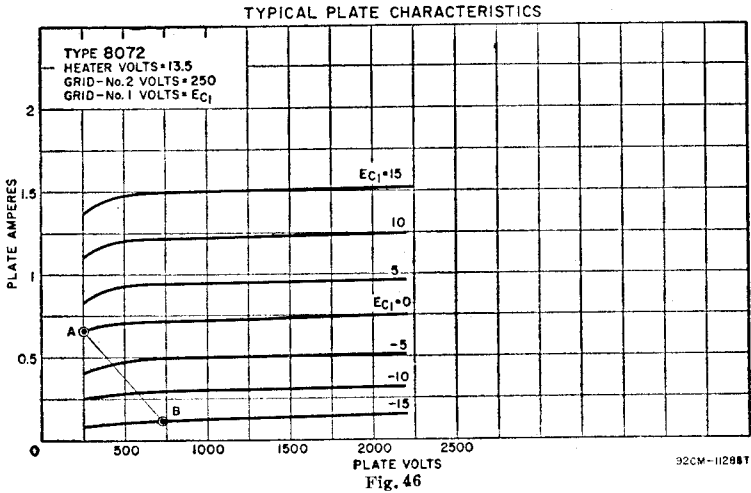
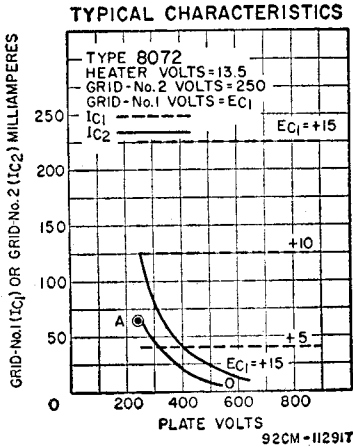

Fig. 46
Fig. 47
The operating conditions for a class AB₁ linear rf amplifier used in single-sideband service can be estimated from the load line plotted on a set of plate characteristics. The typical plate and grid-No.2 characteristic curves shown in Figs. 46 and 47 are used in the following
(3) Select a value of zero-signal plate current (I_{b0}) between 1/6 and 1/10 of I_{bmax} found in (2). Locate I_{b0} at selected E_b and construct a load line to the point found in (2). In general, the
(5) Determine the grid-No.1 bias (E_{c1}) from graph at the point of zero signal found in (3).
(6) DC plate current at peak of envelope (I_{be}) is approximately equal to $I_{bmax}/3$.
(7) Average dc plate current (I_b) is equal to $I_{be}/1.4$.
(8) Determine peak grid-No.2 current (I_{c2max}) from Fig. 47 at conditions in (2).
(9) DC grid-No.2 current at peak of envelope (I_{c2e}) is approximately equal to $I_{c2max}/4$.
(10) Average grid-No.2 current (I_{c2}) is approximately equal to $I_{c2e}/1.4$.
(11) Average grid-No.2 dissipation (P_{c2}) is approximately equal to $E_{c2} \times I_{c2}$.
(12) Peak Envelope Power input (P_{Ine}) is equal to $E_b \times I_{be}$.
(13) Peak Envelope Power output (PEP) is equal to $(I_{bmax}/4) (E_b - E_{bmin})$.
(14) Average Plate Dissipation (P_p) is equal to $0.7 P_{Ine} - 0.5 PEP$.
(15) Average Power Output (P_o) is equal to $PEP/2$.
(16) Effective rf load resistance (R_p) is equal to $2(E_b - E_{bmin})/I_{b0}$.
(1) The plate voltage is selected to be 700 volts; grid-No.2 voltage, 250 volts.
(2) On Fig. 46 plot the maximum-signal point at knee of $E_{c1} = 0$ curve (point A). Read $I_{b_{max}} = 0.65$ ampere. Locate $E_{b_{min}}$ at 250 volts.
(4) On Fig. 46 plot the minimum-signal point at $E_b = 700$ volts and $I_{b_0} = 0.10$ ampere (point B).
(5) On Fig. 46 read E_{c1} at -15 volts at minimum-signal point B.
(6) Calculate: $I_{b_e} = I_{b_{max}}/3 = 0.650/3 = 0.22$ ampere.
(7) Calculate: $I_b = I_{b_e}/1.4 = 0.22/1.4 = 0.16$ ampere.
(8) On Fig. 47 locate point A at $E_b = 250$ volts and $E_{c1} > 0$ on grid-No.2 current curves. Read $I_{c_{2max}} = 0.065$ ampere.
(9) Calculate: $I_{c_{2e}} = I_{c_{2max}}/4 = 0.065/4 = 0.016$ ampere.
(10) Calculate: $I_{c_2} = I_{c_{2e}}/1.4 = 0.016/1.4 = 0.011$ ampere.
(11) Calculate: $P_{c_2} = E_{c_2} \times I_{c_2} = 250 \times 0.011 = 2.7$ watts. Verify that grid-No.2 dissipation is within rating.
(12) Calculate: $P_{1b_e} = E_b I_{b_e} = 700 \times 0.22 = 154$ watts.
(13) Calculate: $PEP = (I_{b_{max}}/4)(E_b - E_{b_{min}}) = (0.650/4)(700 - 250) = 73$ watts.
(14) Calculate: $P_D = 0.7 P_{1b_e} - 0.5 PEP = 0.7(154) - 0.5(73) = 71$ watts.
(15) Calculate: $P_0 = PEP/2 = 73/2 = 36.5$ watts.
(16) Calculate: $R_p = 2(E_b - E_{b_{min}})/I_{b_{max}} = 2(700-250)/0.65 = 1384$ ohms.